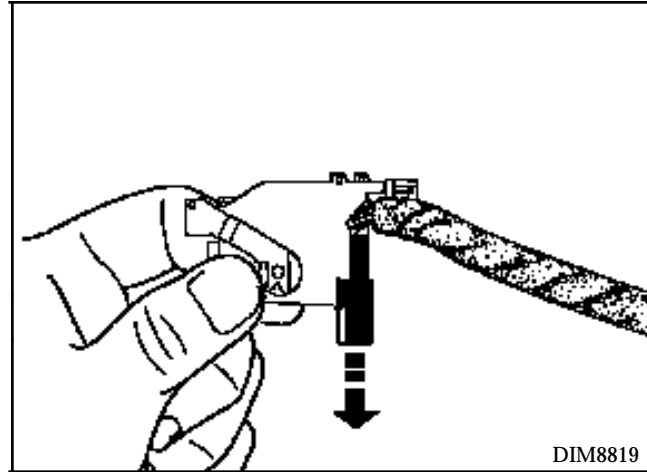

Fig. 1
- the wires at **tracks 3** and **4** for the righthand pre-tensioner (**Fig. 1, 2, 3**).